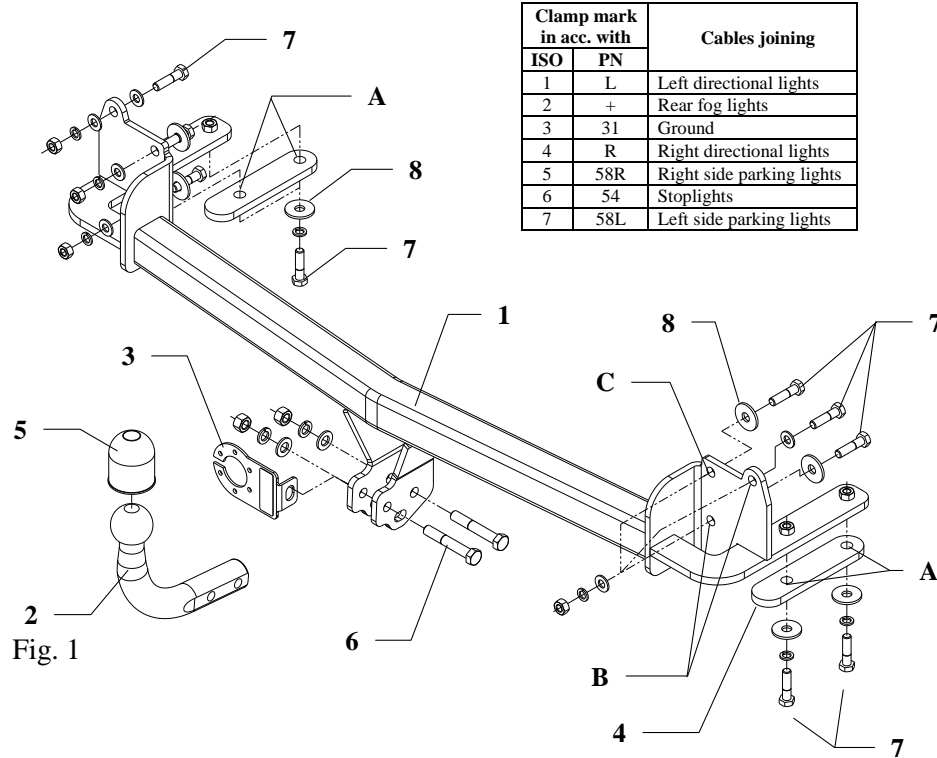

Fig. 1
4. Put main bar of towbar pos. **1** into chassis and fix loosely according to fig. 1 through hole pos. **A** using bolts M10x40mm (pos. **7**).